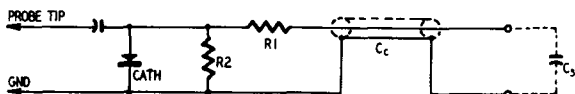

Fig. 109. Probe circuit RC time constant.
Building a probe is a compromise. While we want the values of R and C to be small, fixed values of cable and scope input capacitance are design limiting factors. Furthermore, R1 (in Fig. 109) cannot be made too small, since it will then permit r.f. to get into the scope. If the resistance of R2 is seriously decreased, the
*As seen in Fig. 109, the limiting factor in the ability of a crystal probe to display a modulation envelope on the scope screen is usually determined by the time constant of the scope input circuit, $(C_c + C_s) \times (R_1 + R_2)$. The total input capacitance $C_c + C_s$ charges through R1 and discharges through R1 + R2. Unless this charging and discharging can take place with sufficient rapidity, there will be negative peak clipping of the waveform displayed on the scope screen. The time constant can be reduced by decreasing the value of C_c . Cable capacitance C_c is usually much larger than scope input capacitance C_s . In a single time-constant interval, the cable can charge up to 63.2% of the peak value of a square wave or, having been previously charged, will be able to discharge in a single time-constant interval to 36.8% of the peak value of the initial charge.